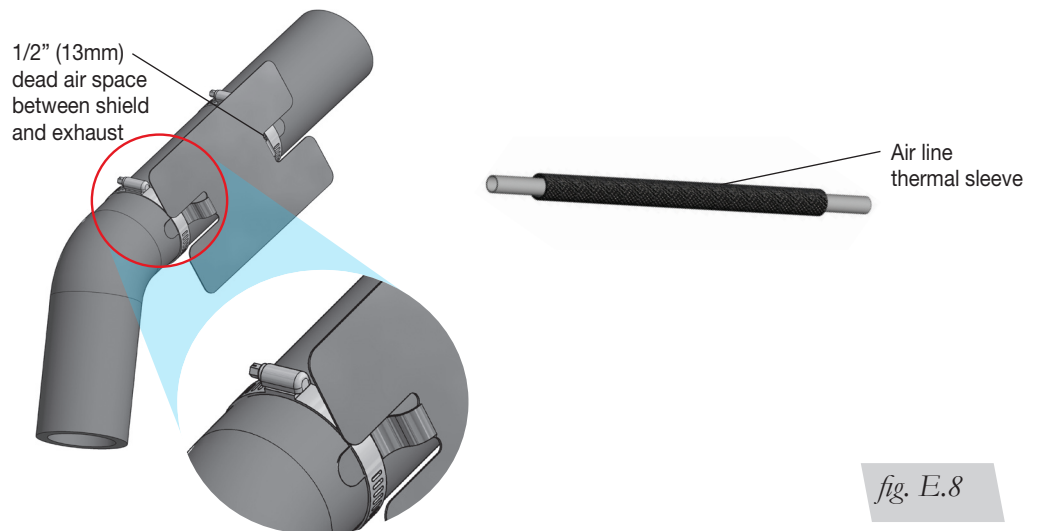

fig. E.8
1. For nylon air line, it is recommended that the air line be routed along the top of the frame, forward of the axle, then down to the fitting (Fig. E.2). After cutting the air line to length, install the air line thermal sleeve over the air line on the passenger's side before inserting into the fitting. Secure the air lines to the upper coil spring mount with zip ties (BB) supplied. Also see Figure E.8.
1. Attach the metal heat shield to the exhaust where it is closest to the passenger's (right) side air spring (Fig. E.8).